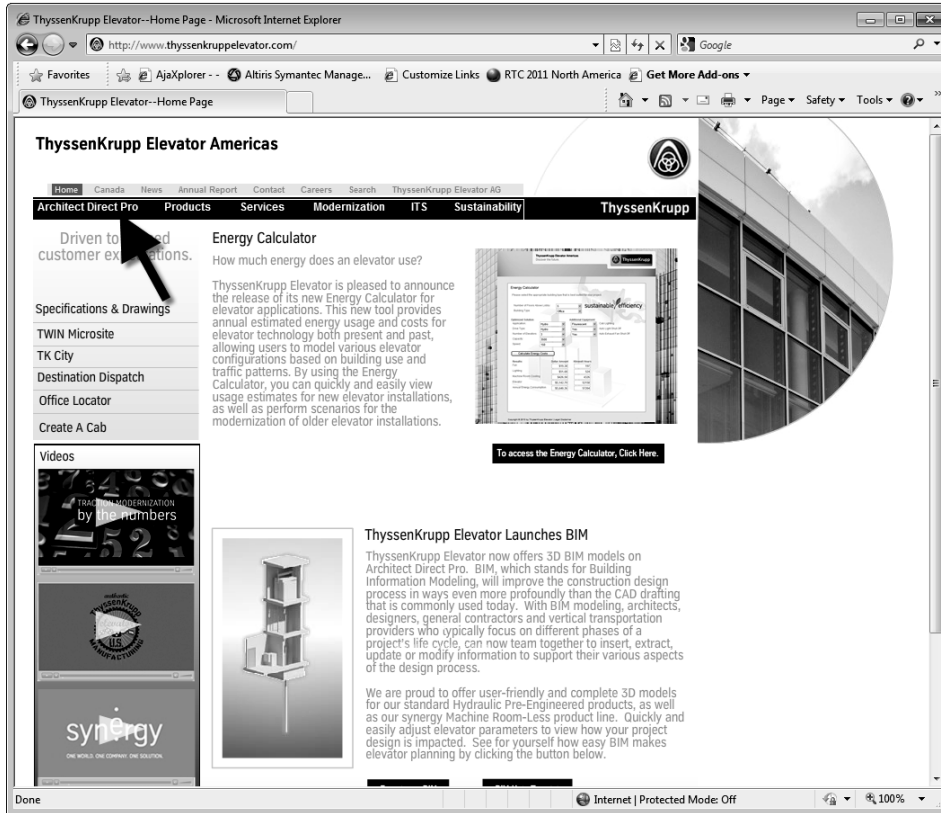

FIGURE 4-3.1 Elevator manufacturer’s website
2. Browse to the **ThyssenKrupp Elevator** website by entering the URL **www.thyssenkruppelevator.com** and then press **Enter** (Figure 4-3.1).